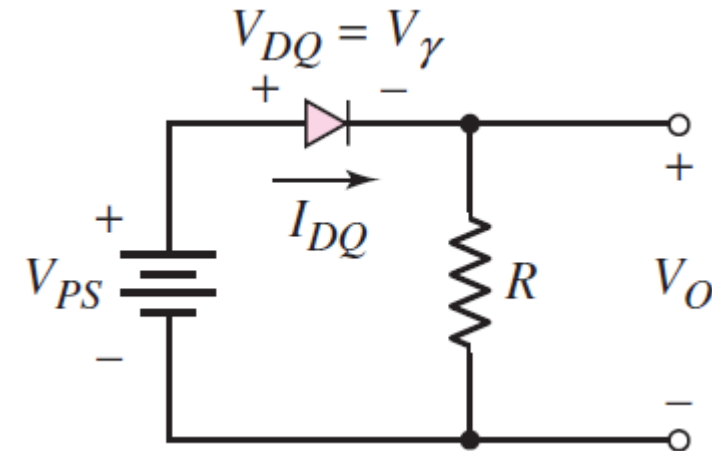

Figure 1.36(a)
1. Consider only the ac signals and parameters in the circuit in Figure 1.36(b).